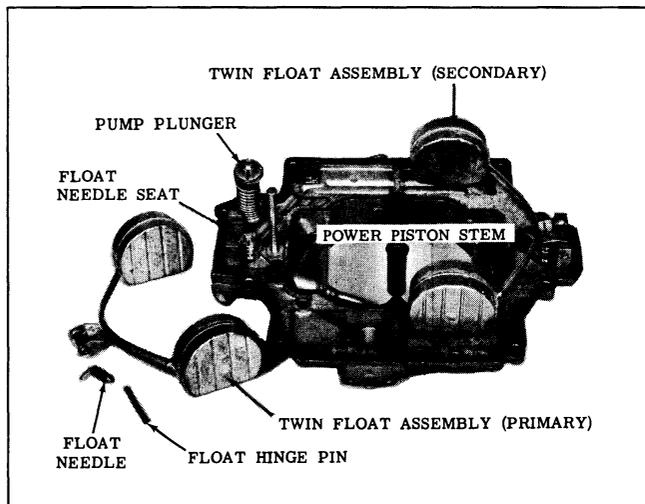

Fig. 8-93 Primary Float Assembly
13. Remove the hinge pin from the primary float assembly, then lift the float and needle from the air horn. (See Fig. 8-93)